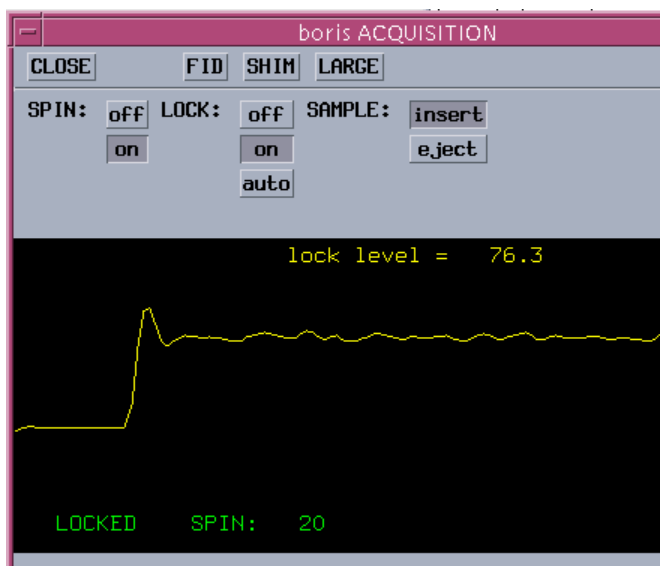

Figure 9: Sample locked.
5. After the lock is clicked *[on]* adjust the *lock phase* to achieve the maximum *lock level*. The [-4+] adjustment should be sufficient. The current lock level can be seen at the top and center of the Interactive Acquisition graphics window (see Figure 9 above). Note that large changes to the *shims* affect the *lock phase* and this may need to be readjusted later.